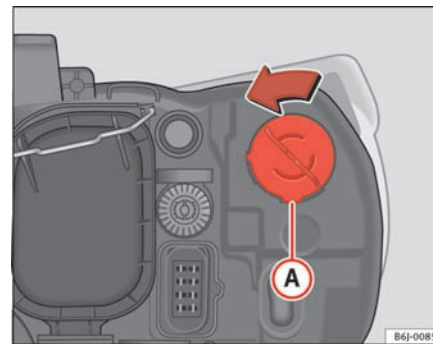

Fig. 131 Indicator light
- Rotate the lamp holder ⇒ fig. 131 **A** to the left and pull it.